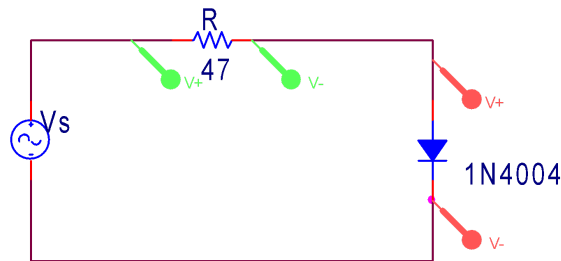

Figure 6: Diode with resistor circuit
- Using the 1N4004 Diodes, build the circuit shown below (Figure 6). (Remember ground is necessary, even if it is not shown in the circuit.)